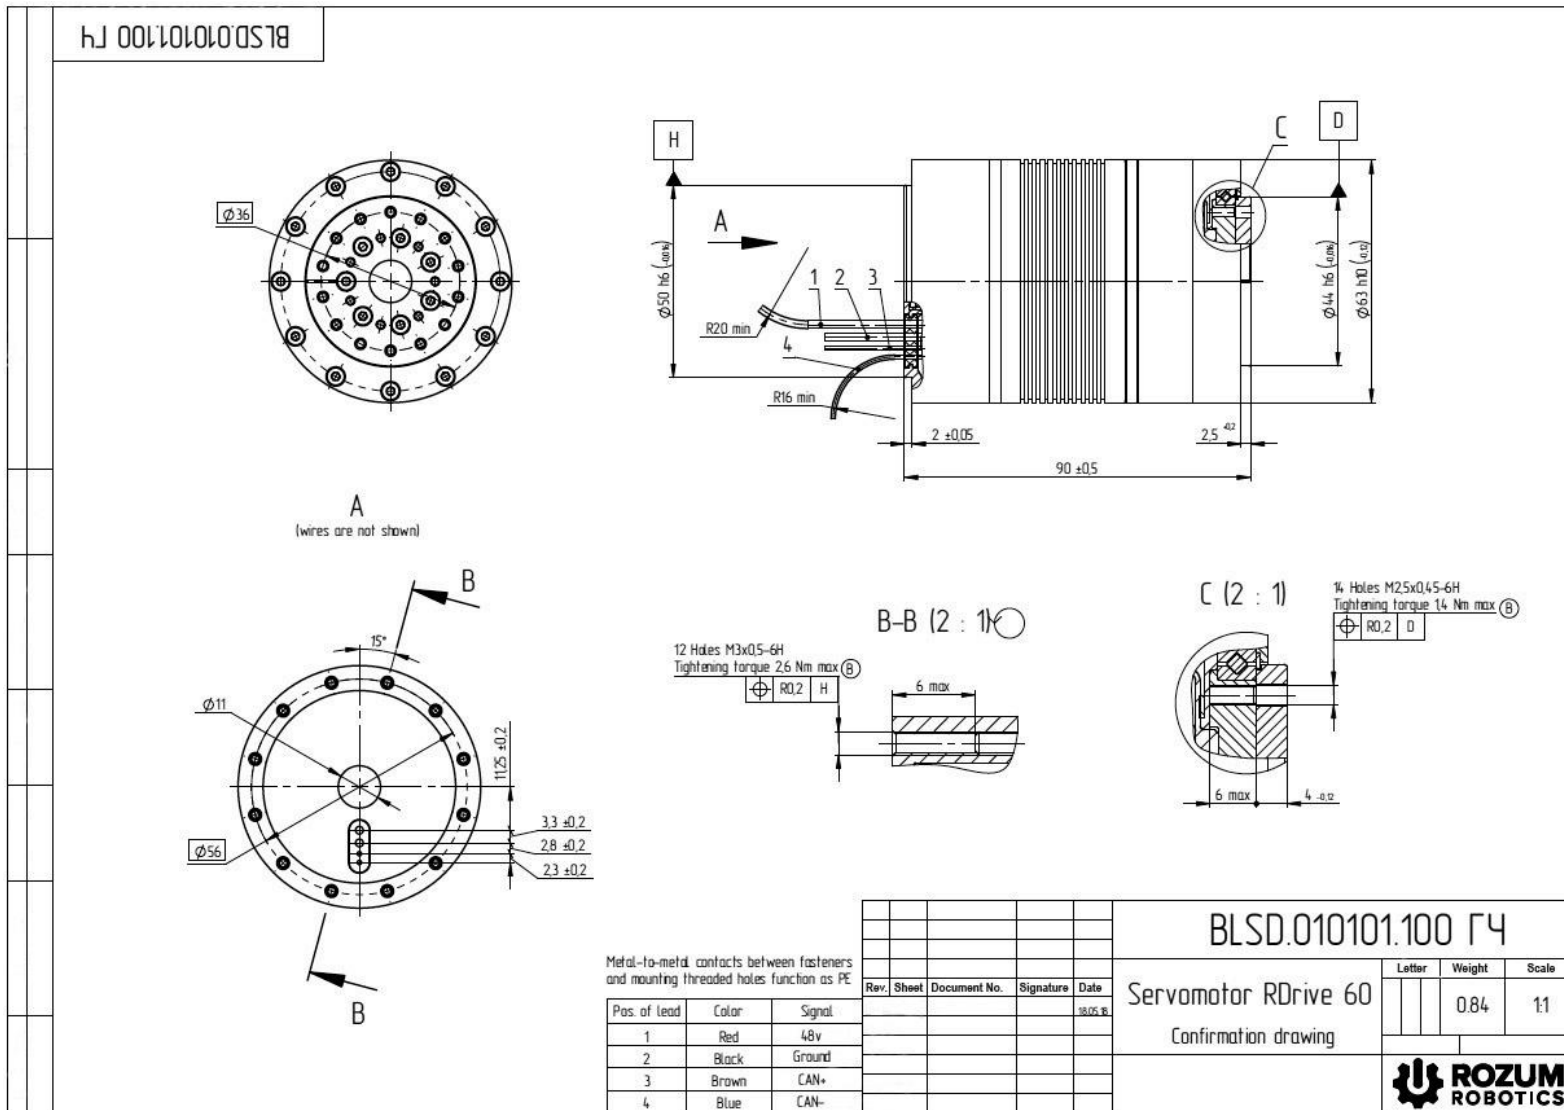

Figure 4-1: The installation drawing for the RD60 servo motor
2. Fasten the servo to the machine. To do this, insert twelve M3 screws into the holes on the rear mounting flange and tighten them to the torque of 2.6 N·m max (see Figure 4.1).
3. Screw a load down to the output flange using fourteen M2.5 holes and applying the torque of 1.4 N·m max (see Figure 4.1).
For the color scheme, cable arrangement, and protective earthing, refer to Figure 4-1.
- protective earthing (see Figure 4.1)